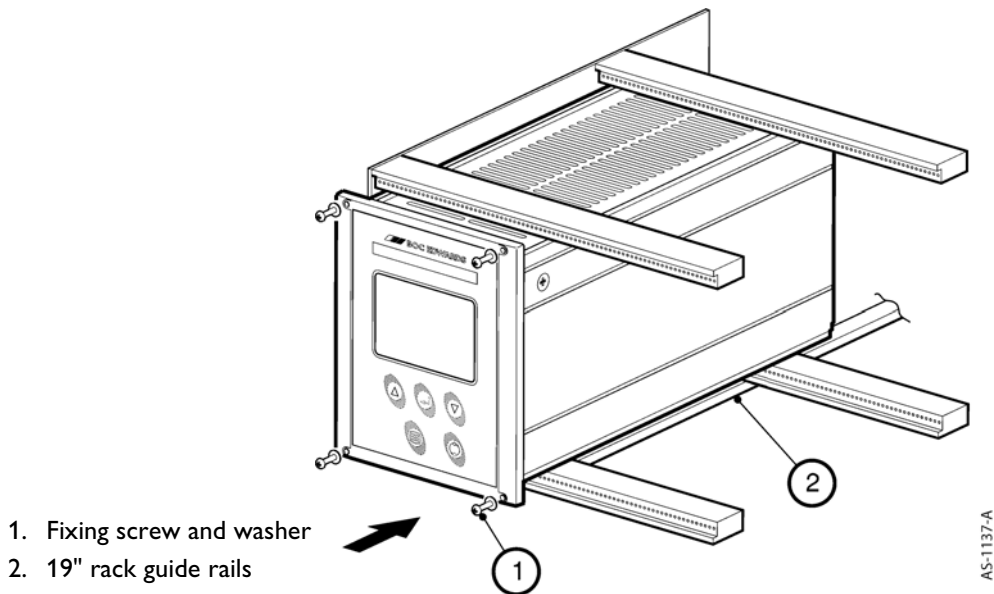
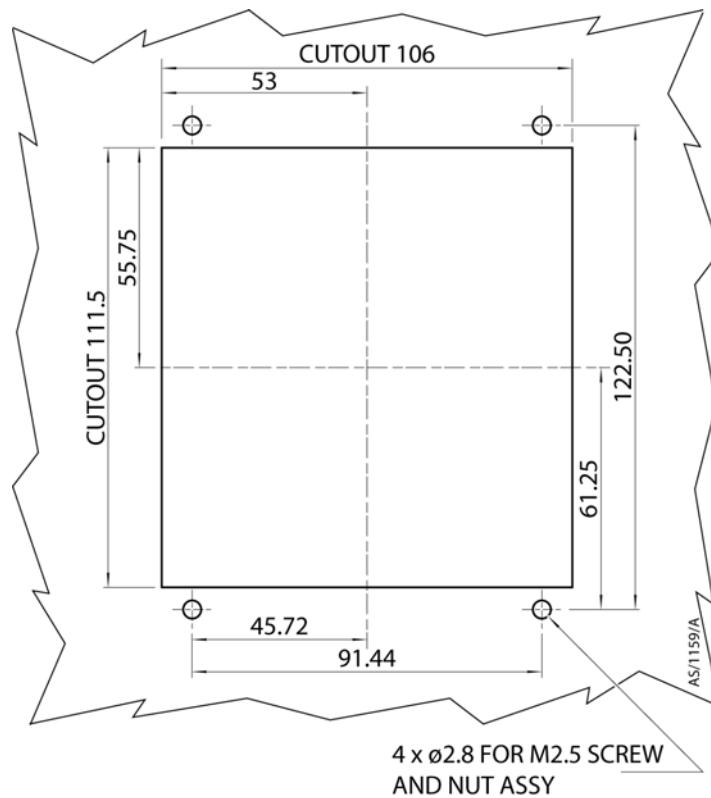

Figure 8 - Rack mounting of a TIC
Figure 9 - Panel cut out drawing
- Slide the Controller into the 19" rack or panel cut out. The use of 19" rack guide rails (Figure 8, item 2) and support at the rear of the Controller is recommended as shown in Figure 8. The panel cut out information is defined in Figure 9.
- Fix the Controller in place using the four screws removed previously (Figure 8, item 1).